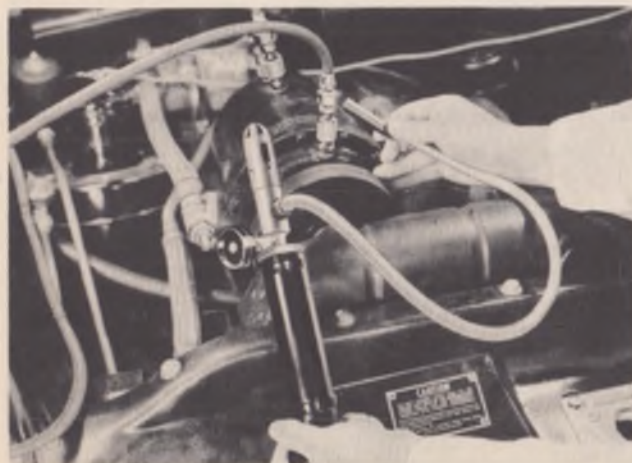

Fig. 8
9. Operate to obtain 28" vacuum for 10 minutes. If a 28" vacuum cannot be obtained, close the shutoff valve at the pump and stop the pump. Open the refrigerant cylinder valve and allow the system to come to cylinder pressure. Close the cylinder valve. Leak-test the complete low side of the system, including gauge hookup fittings, Figure 8, with leak detector J-5419. If the leak cannot be found, the vacuum pump may be faulty.